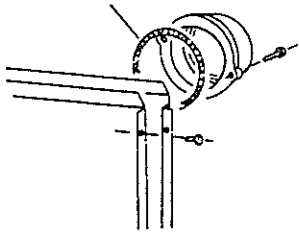

Figure G1
1. Flue Collar Gasket (Figure G1) 1/4 x 23.5 inches long.